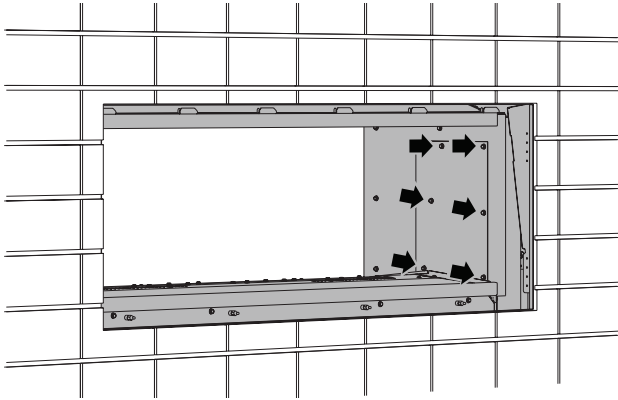

Figure 98
4. The gas valve and control module access panel is shown in **Figure 98**. Remove the six screws and slide the panel upwards to remove.